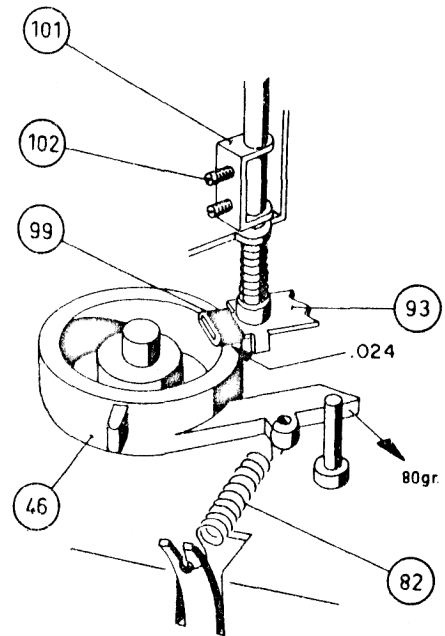

Fig.19
## COUPLING DISC 46 (see Figure 19)
1. When the needle is upon the record, the long lug of coupling disc 46 must press against the stopping pin with a force of at least 80 G. (see Figure 19)
2. The distance between the nylon friction block 99 and the coupling disc 46 must be  $.023''$  to  $.027''$  in the lowest position (see Figure 19).